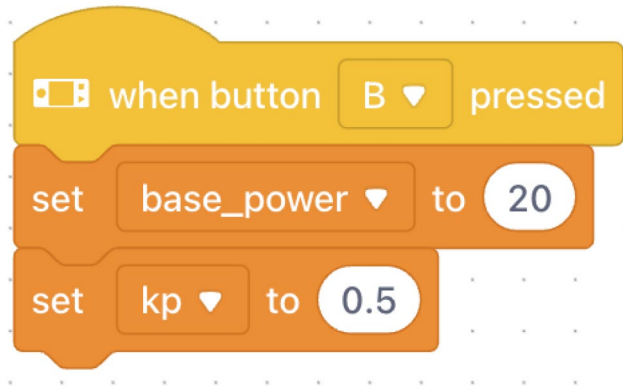

Figure 3-15. *Creating a button-pressed event and defining variables*
Next, we have to define our variables inside the program. Even though we defined the variables earlier, they won’t help us unless we use them. Go back to the orange “Variables” tab and find the “set [] to ()” block. Drag two of these blocks down under the previous block. Then set the first one to “set [base_power] to (20)” and the second block to “set [kp] to (0.5).” You can see an example of the finished outcome in Figure 3-15. With these two variables, we are defining the speed of the robot and the turn adjustment value for line following.